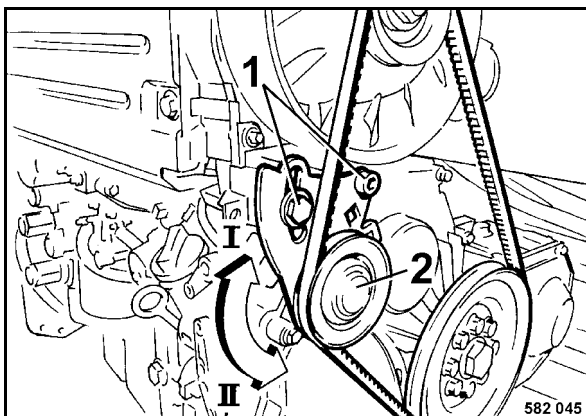

Fig. 78
- Slightly slacken the fastening screw 1 (Fig. 78).
- Press the idling pulley (2) in direction "I", until the correct V-belt tension is achieved.
- Tighten the fastening screws (1).